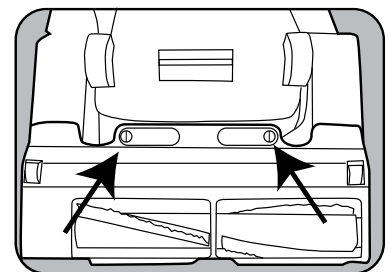

Fig. 3
- Slide the clips toward each other (Fig. 3).